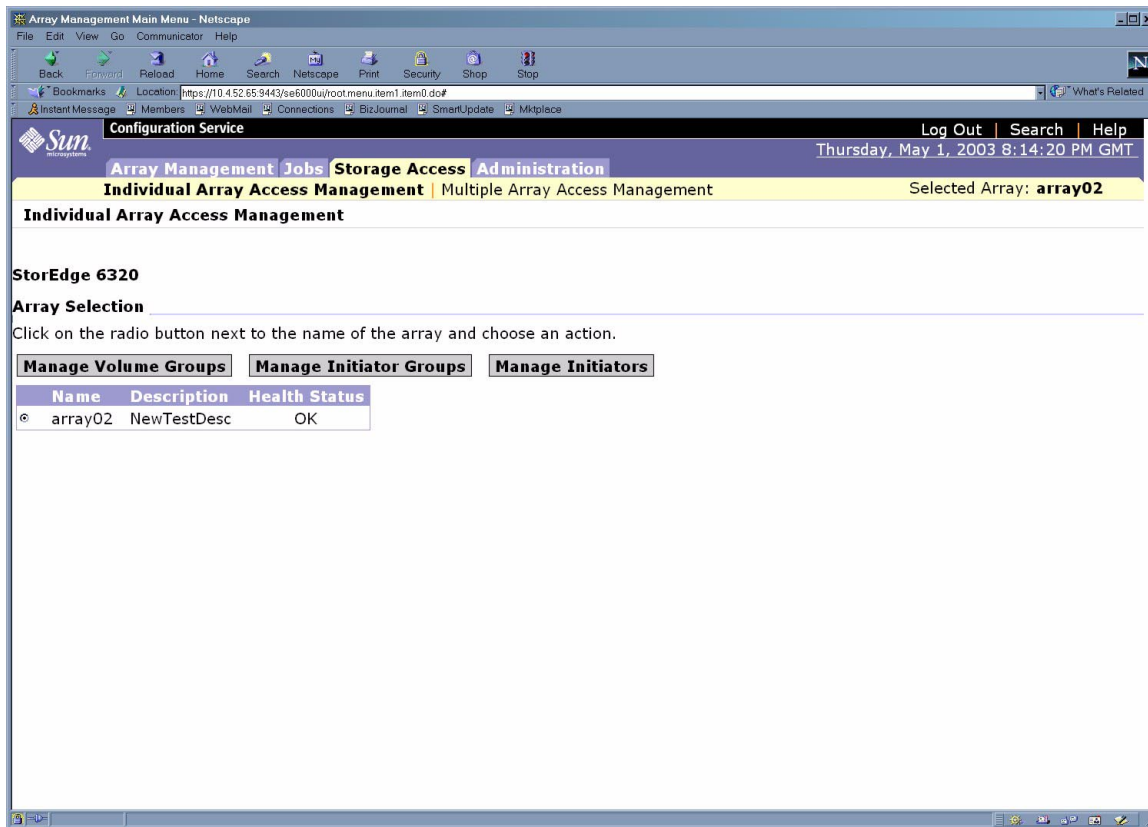

FIGURE 6-14 Individual Array Access Management Page
5. Click on the **Storage Access** tab and the **Individual Array Access** management page is displayed as shown in FIGURE 6-14.